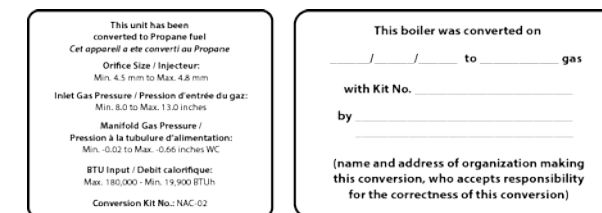

Figure 11. Proper Placement of Gas Conversion Labels
12. Once the CO₂ or offset values have been confirmed, apply the included conversion stickers to show that the appliance has been converted to propane gas. Place these labels adjacent to the rating plate as shown in Figure 11.